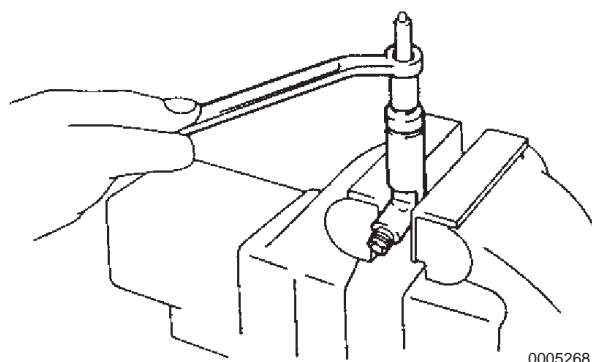

Figure 6-18
1. Remove the nozzle holder retaining nut to disassemble the fuel injection nozzle (**Figure 6-18**). Avoid dropping internal parts when disassembling the nozzle.